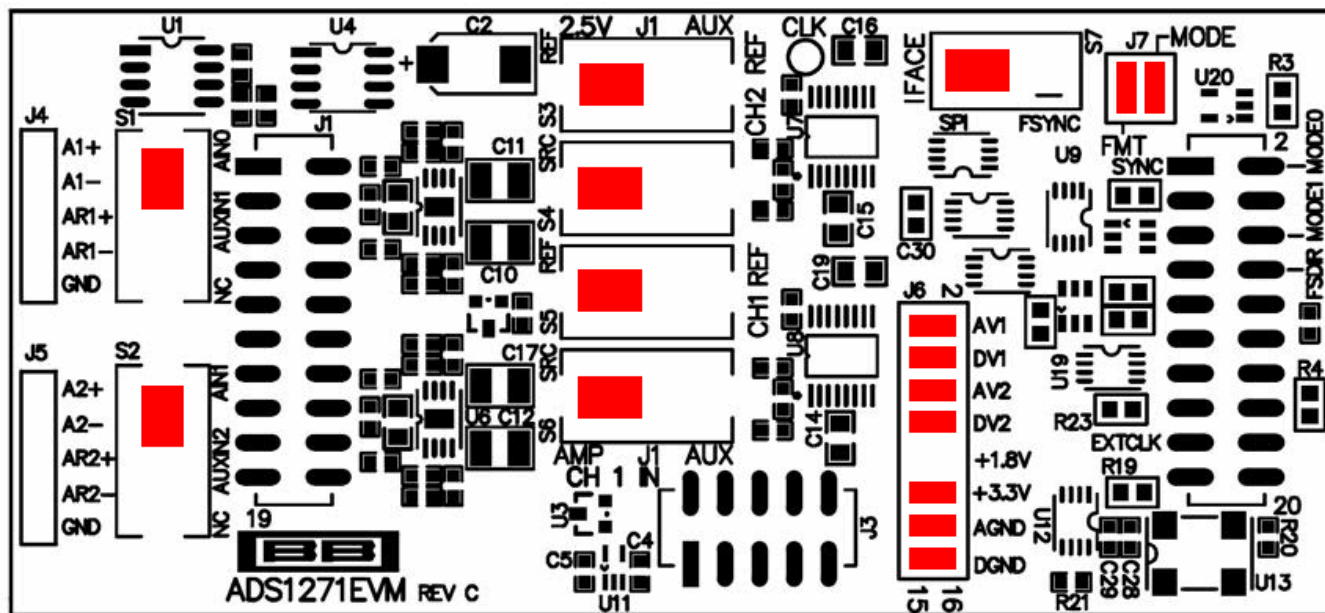

Figure 1. ADS1271EVM Default Configuration
Figure 1 shows the jumpers found on the EVM and locations of **left**, **middle** and **right** for switch settings in the following discussion.
1. Verify that the jumpers on the ADS1271EVM are as shown in Figure 1 (note that these settings are the factory-configured settings for the EVM).